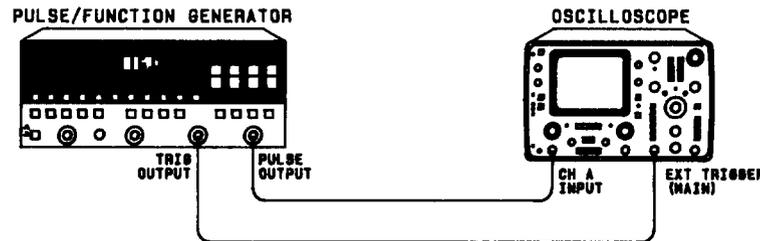

FIGURE 6. EQUIPMENT CALIBRATION SETUP
5. Mark probe connected to Channel A input and disconnect both 10:1 probes from oscilloscope. Using two BNC cables, connect equipment as shown in Figure 6.